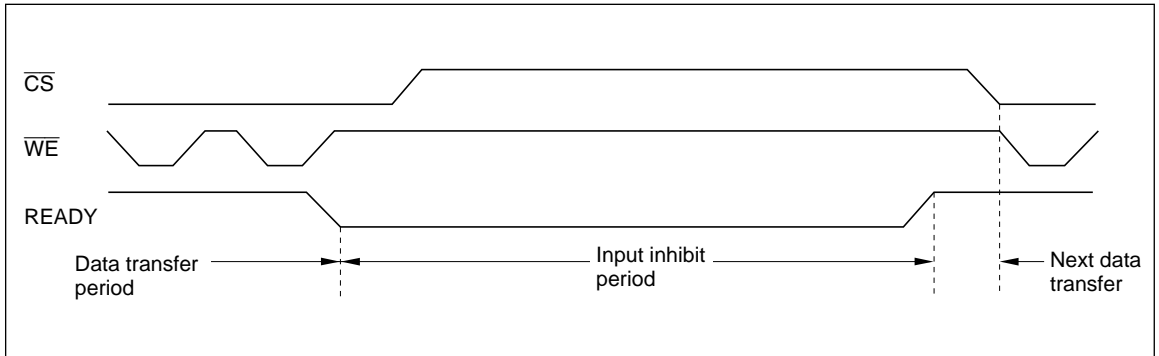

Figure 14 READY Output Timing (When It Is Always Available)
- READY is always available (figure 14).